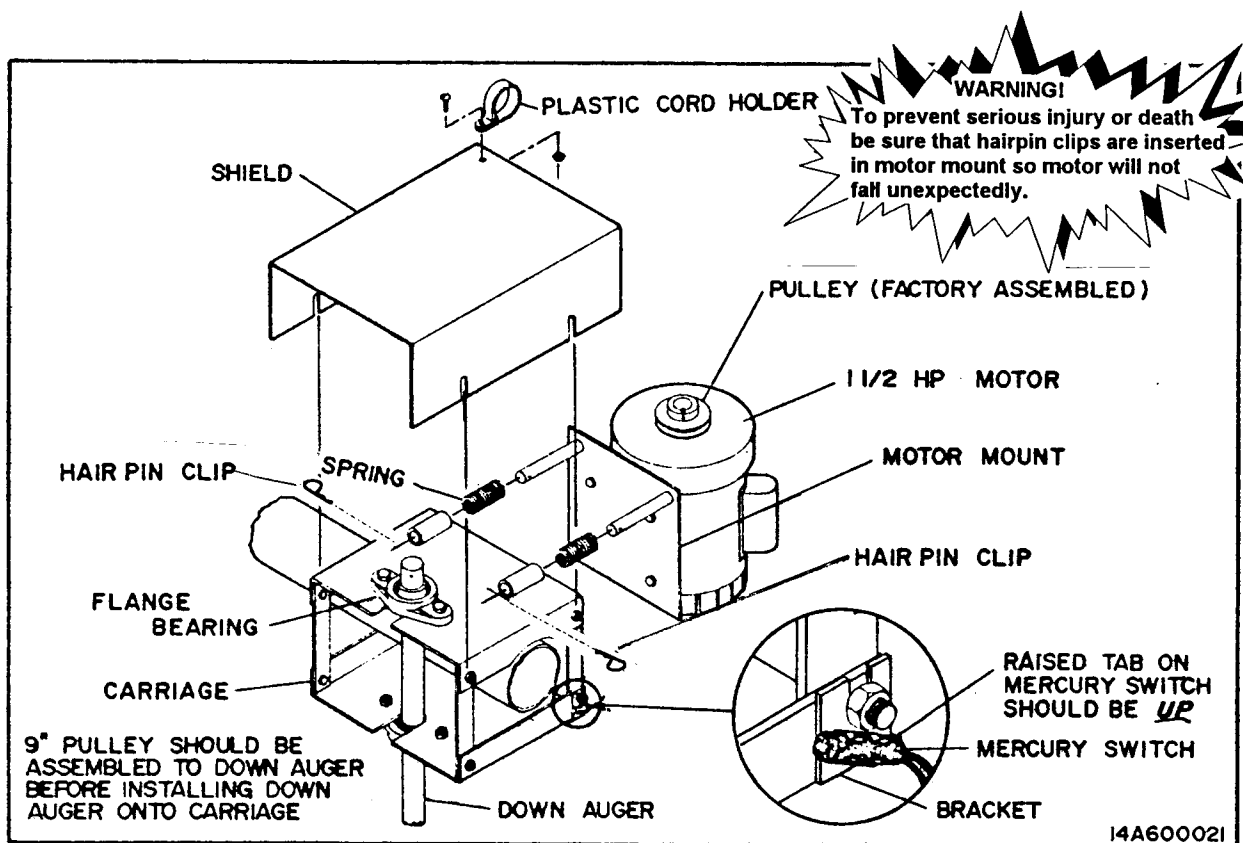

FIG. 10 - ASSEMBLY OF CARRIAGES
7. On outside (Stirway II) and middle carriages, mount mercury switch and bracket to bottom corner carriage bolt shown in Fig. 10. Be sure raised tab of mercury switch is up. Slide bottom of bracket up to and even with bottom carriage plate and secure in place.
9. Place one spring on each of the motor mount pegs. Mount motors onto carriages. Place hairpin clips through holes in motor mount pegs. Use two clips per carriage. Fig. 10
1. Hang down augers by top bearing in slot of carriage. Bolt top bearing to carriage with 2 - 7/16 x 1 1/4" bolts. Fig. 10